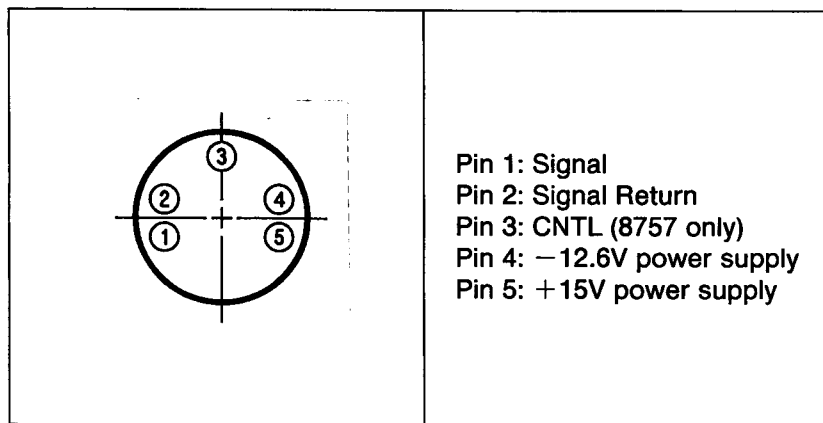

Figure 7-1. Identification of Analyzer Input Pins
1. To determine whether the HP 11613B is being provided with power by the HP 8756A/57A analyzer, use a DVM to measure the -12.6V and $+15\text{V}$ power supplies at pins 4 and 5 of one of the network analyzer's front panel input connectors. These pins are identified in Figure 7-1. To insure that the supplies are good under load, connect a 348Ω resistor from pin 4 to chassis ground and measure the voltage across the resistor with a DVM. Repeat the procedure for pin 5. If pin 4 reads $-11 \pm 0.5\text{V}$ and pin 5 reads $+13 \pm 0.5\text{V}$ under load, continue with the next step. The voltage levels on the HP 8755A/B/C will be slightly different.
Connect the oscilloscope probe to an HP 8757A front panel input, pin 3 (see Figure 7-1).